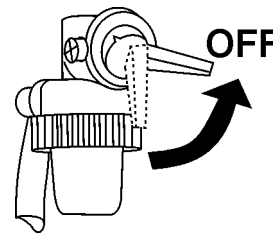

Figure 19. Engine Fuel Valve Lever (OFF Position)
- Place the engine **fuel valve lever** (Figure 19) to the **"OFF"** position."